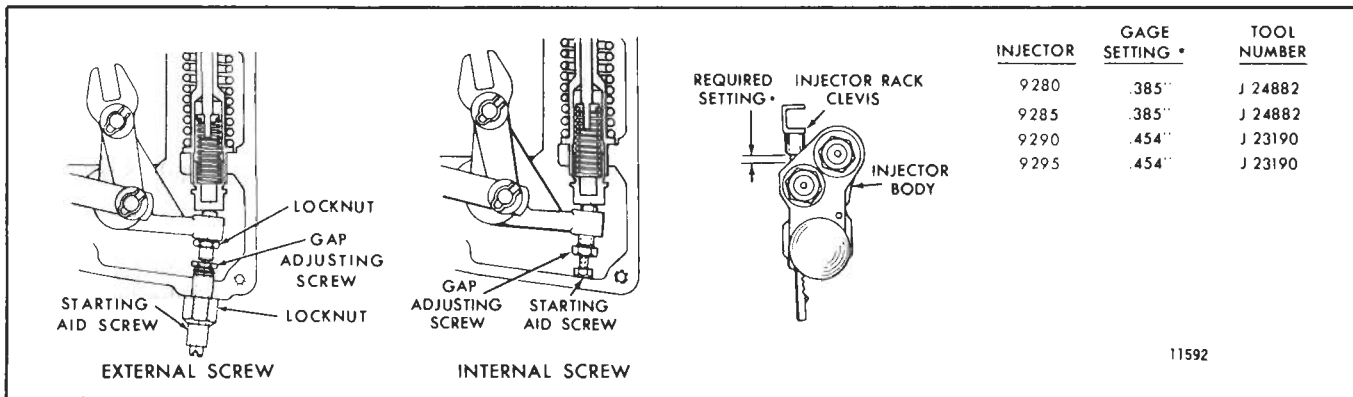

Fig. 7 - Starting Aid Screw Adjustment
- b. Adjust the starting aid screw to obtain the required setting between the shoulder on the injector rack clevis and the injector body (Fig. 7). Select the proper gage and measure the setting at any convenient cylinder. When the starting aid screw is properly adjusted, the gage should have a small clearance of 1/64" (.397 mm) in the space along the injector rack shaft between the rack clevis and the injector body.
- b. Hold the gap adjusting screw, to keep it from turning, and adjust the starting aid screw to obtain the required setting between the shoulder on the injector rack clevis and the injector body (Fig. 7). The setting is measured at the No. 3R injector rack clevis.